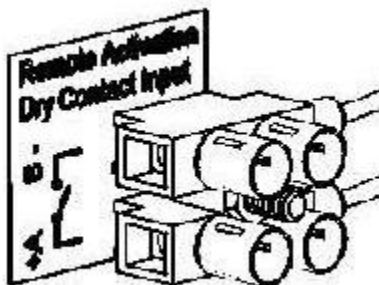

Figure 6-5 Remote Connections
3. Connect the remote activation wires to the terminal block, see figure 6-5.